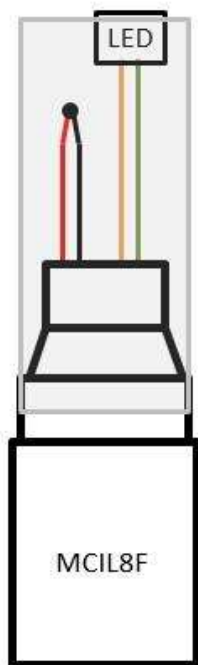

Figure 1: A circuit diagram of the shorting plug, which serves as the power switch for electronics in the FSVPAD housing.
**Shorting plug:** The shorting plug provides power to the Freewave radio and Garmin GPS unit contained within the electronics housing. The construction of the shorting plug, which uses an 8-pin SubConn in-line micro-circular (MCIL) connector, is described in Section II. A wiring diagram of the shorting plug is shown in Figure 1. The pins and wires colors in the figure correspond to the MCIL8F connector and the corresponding bulkhead connector used on the electronics housing cap. A bi-color LED wired potted within the shorting plug blinks red or green in different patterns based on the status of the Arduino microcontroller.